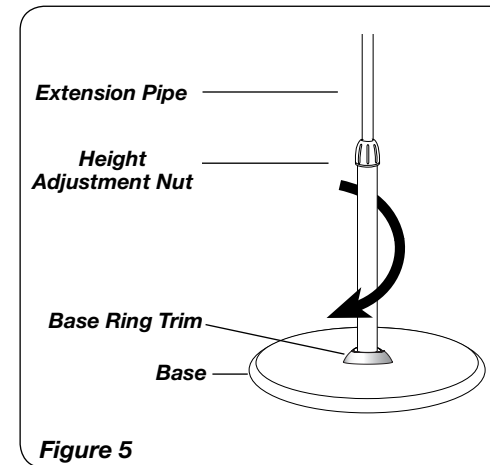

Figure 5
1. Place base pipe ring over hole in base. With a twisting motion, insert the end of the large diameter pipe into hole in **Base**. (Figure 5) Turning pipe while pushing will assure pipe is fully seated in **Base**.